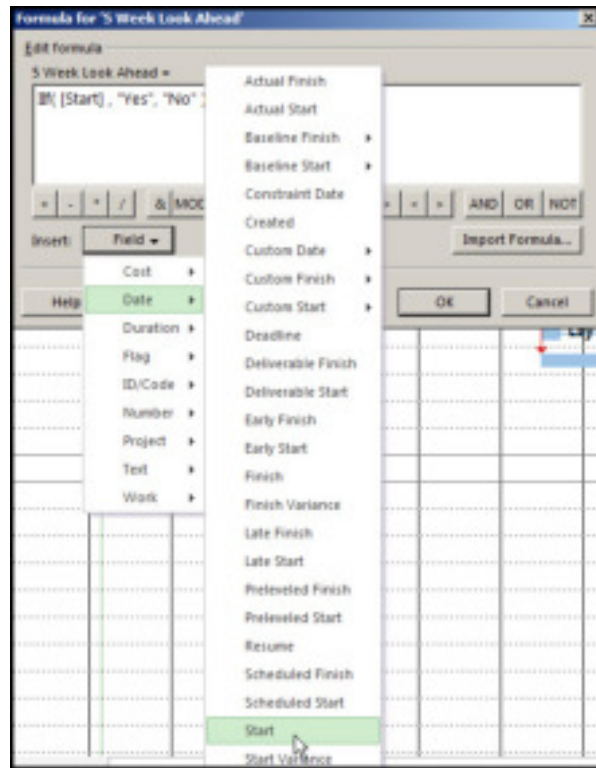

Figure 7
- G. In Figure 7 we enter the Start Date field into the formula.